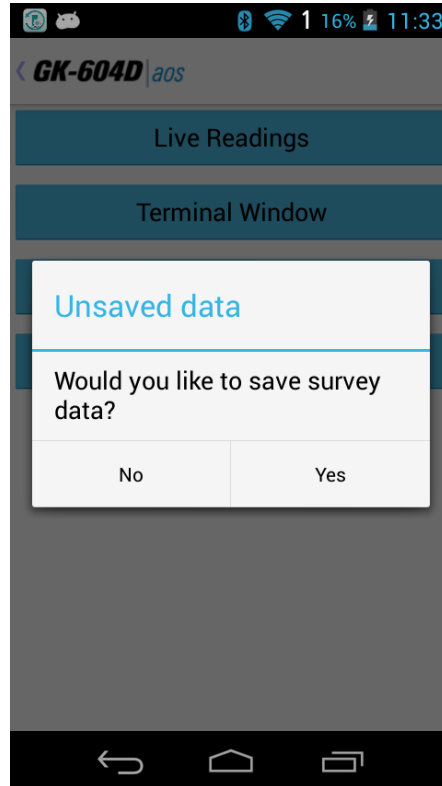

Figure 109 - Unsaved Data Prompt
- 9) When done the survey, tap the “<” to the left of the title and the “Unsaved data” prompt (Figure 109) will be displayed. Tap “Yes” to save the inclinometer/compass survey data.